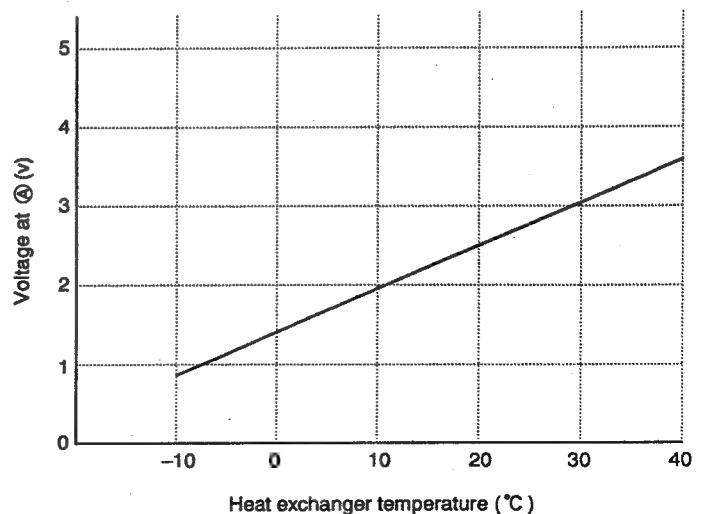

Fig. 6-2
- (1) Preheating.
- (2) Low-temperature defrosting during cooling and dehumidifying operation.
- (3) Detection of the reversing valve non-operation or heat exchanger temperature thermistor open.
The voltage at ① depends on the heat exchanger temperature as shown in Fig. 6-2.